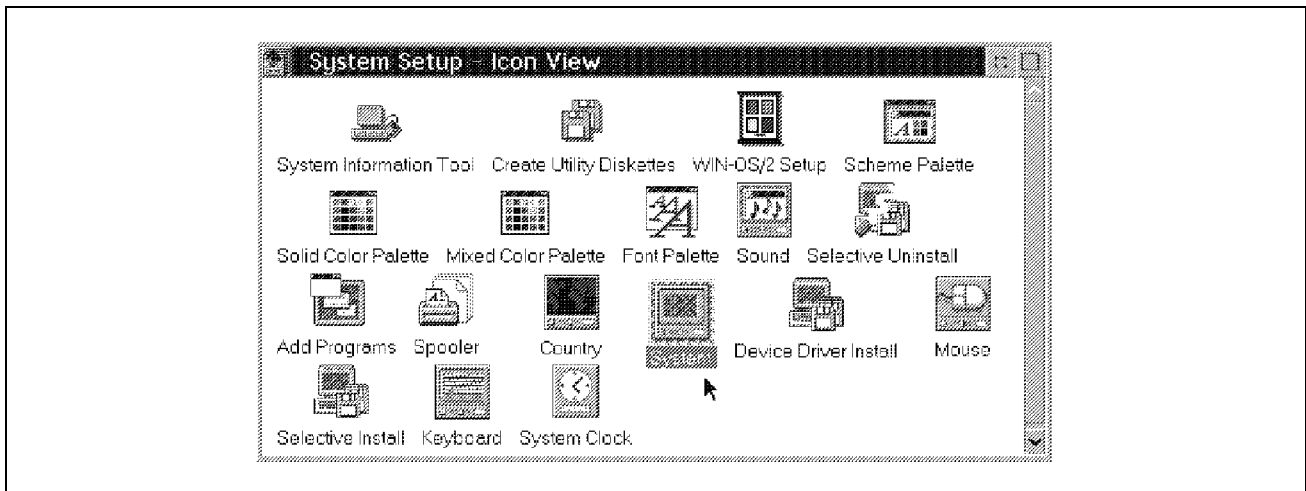

Figure 13. Selecting System Icon from System Setup Folder
3. Open the **System** icon as shown in Figure 13.